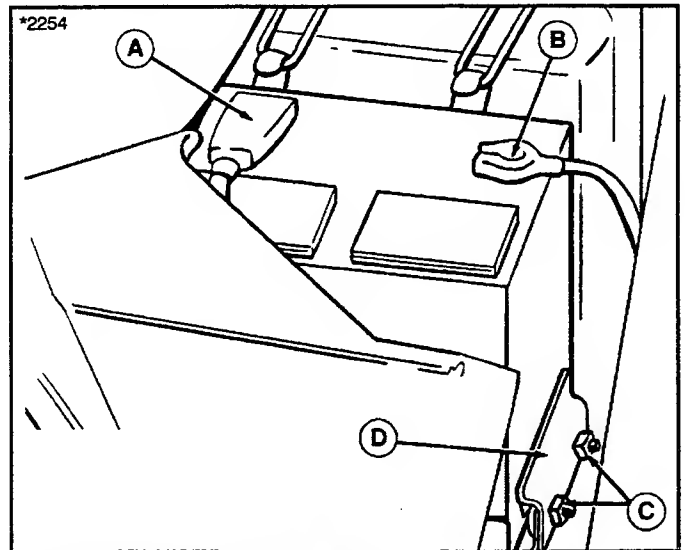

Figure 16. Battery Compartment
- Disconnect the cables from the battery, negative cable first (B, figure 16).